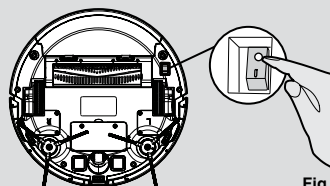

Fig. 9
Switch on the vacuum robot with the on/off switch on the bottom (1). **[Fig. 9]** Set it down in front of the charging station.
1. Press the ON/OFF power switch on the bottom robot. **[Fig. 9]**